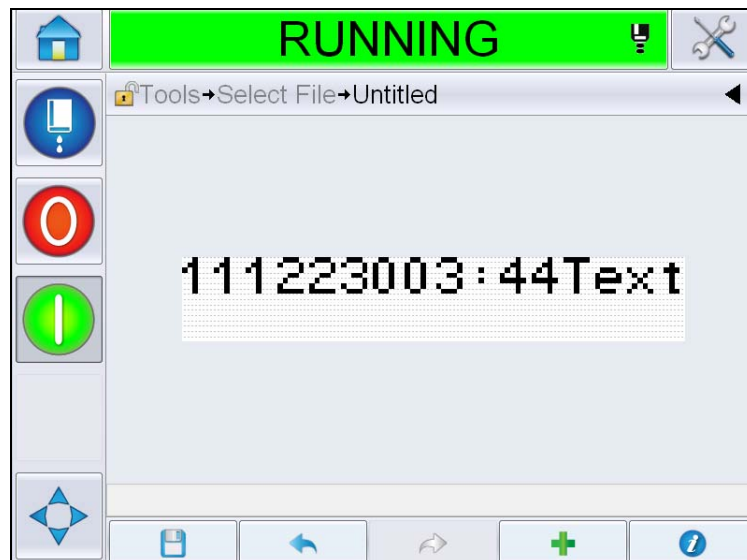

Figure 5-32: Time/Lot Code Field on Message Page
- 12 The message with selected format is displayed on the *Message* page (Figure 5-32). Proceed to Step 18 on Page 5-38 to save the message or go to the next step to add another field.